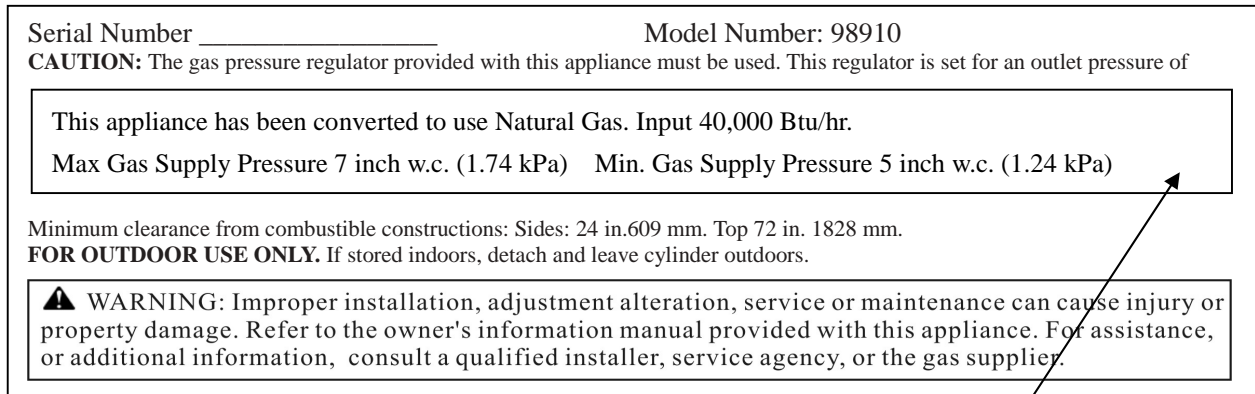

Figure 8
Step 5- Stick the conversion label on the rating plate as shown in Figure 8.